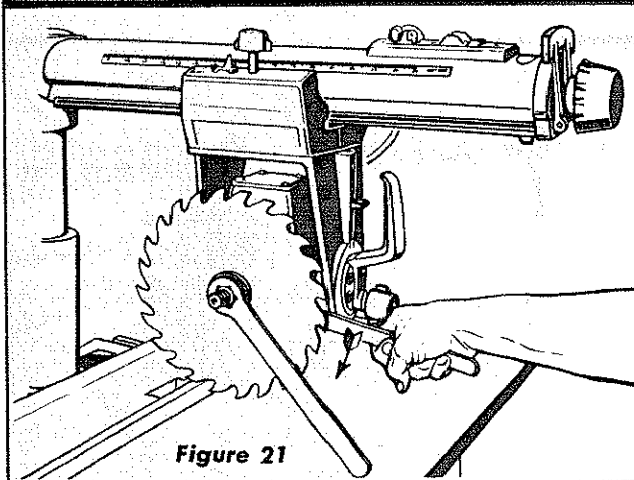

Figure 21
3. **INSTALLATION** (See figure 21.)
d. Use open-end shaft wrench on flats of shaft and tighten by pushing downward as shown in figure 21.